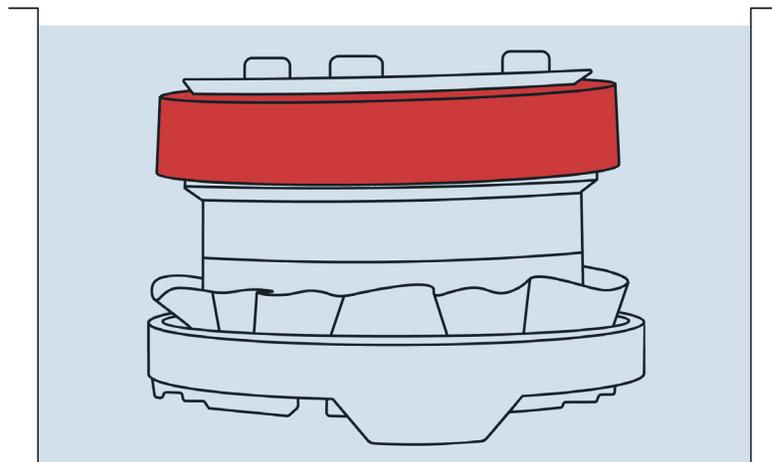

Figure 8 Red gasket on adapter
12. Saturate the porous plate of the red gasket and put it in the same water-filled pan (Figure 8).